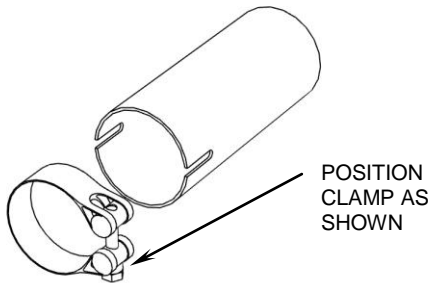

FIGURE 3
8. Place the supplied 27-61msc clamp onto the lower muffler inlet then slide the rear headpipe / muffler assembly onto the front headpipe and into the rear exhaust port. Bolt rear headpipe onto the rear cylinder using the stock nuts from Step 1 but **DO NOT TIGHTEN**. See Figure 3 for clamp orientation.
13. To install the front heatshield, first slide the rear portion of the heatshield over the muffler body, continue to slowly slide it forward pushing the front of the shield gently into place between the frame and motor (Hint: Spread the hose clamps apart slightly to make it easier to slide them over the muffler assembly and headpipes). Make sure the muffler clamp doesn't interfere with the heatshields and is aligned as shown in Figure 3. Snug the heatshield clamps but **DO NOT TIGHTEN**.